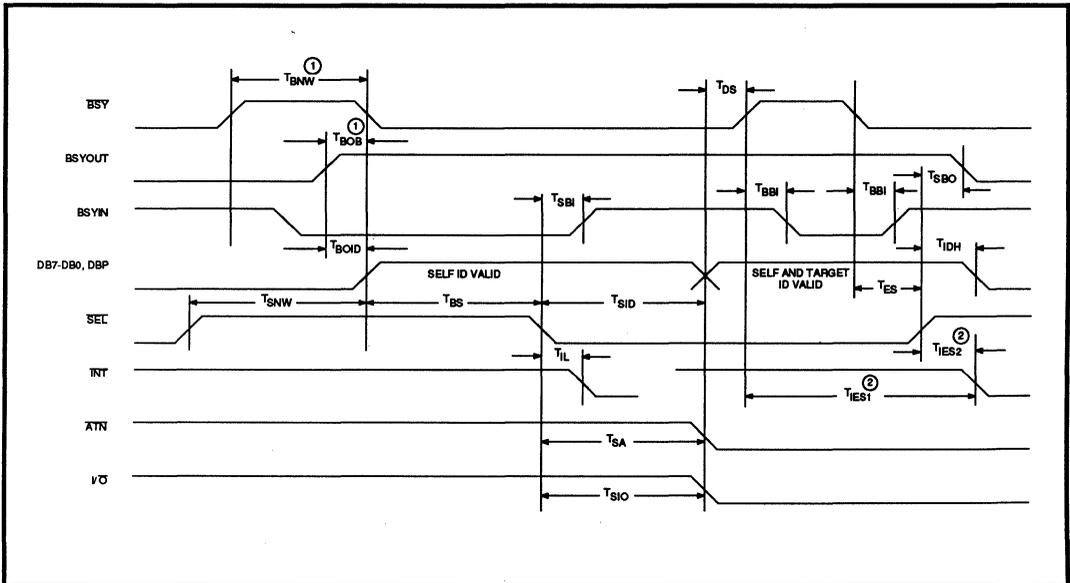

FIGURE 9: ARBITRATION AND (RE)SELECTION TIMING - SSI 32B450A INITIATED
ARBITRATION AND (RE)SELECTION TIMING - SSI 32B450A INITIATED (See Figure 9)